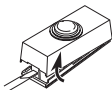

Figure 1
1. **Remove orange battery tab from push button.** Remove back of case by pushing in tab on bottom with a small screwdriver (see Figure 1). Remove orange battery tab.
- **Screw Mounting:** To mount with screws, remove back of case by pushing in tab on bottom with a small screwdriver (see Figure 1). *Note:* Remove material in screw holes (if needed) before mounting with screws. Attach back of case to door jamb or wall (see Figure 4). Snap front of push button on.